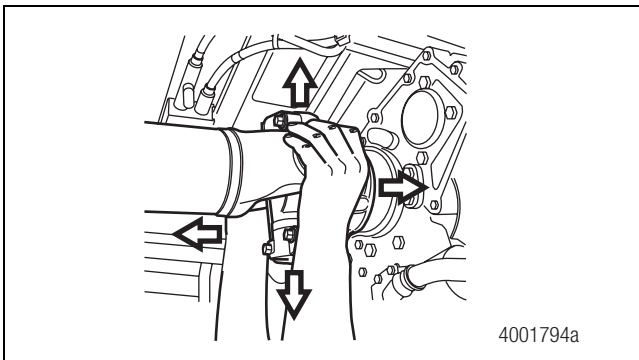

Figure 4.8
- B. Try to move the yoke UP-AND-DOWN and SIDE-TO-SIDE by applying at least 50 lb-ft (222.5 N•m) of force to the driveline near the universal joints. Figure 4.8. **ⓘ**